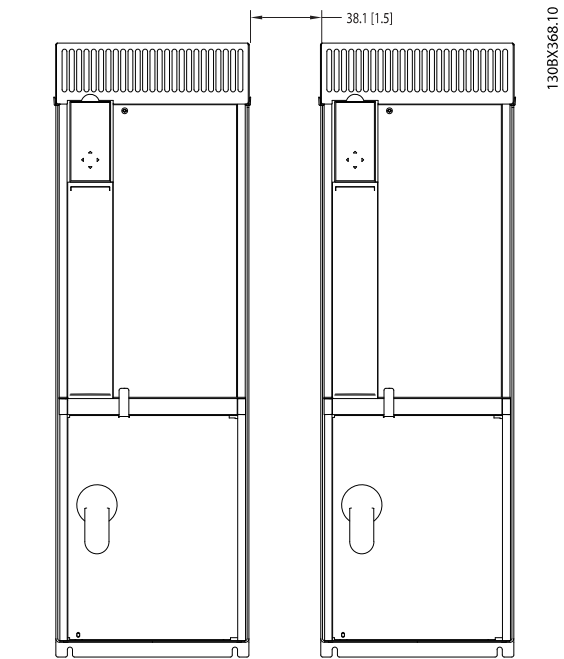

Figure 3.2 Side Cooling Clearance
- Most panels may be mounted side-by-side without additional side clearance. However, the P2 (B3 frame size) units require 1.5 in. minimum clearance between units (see Figure 3.2).